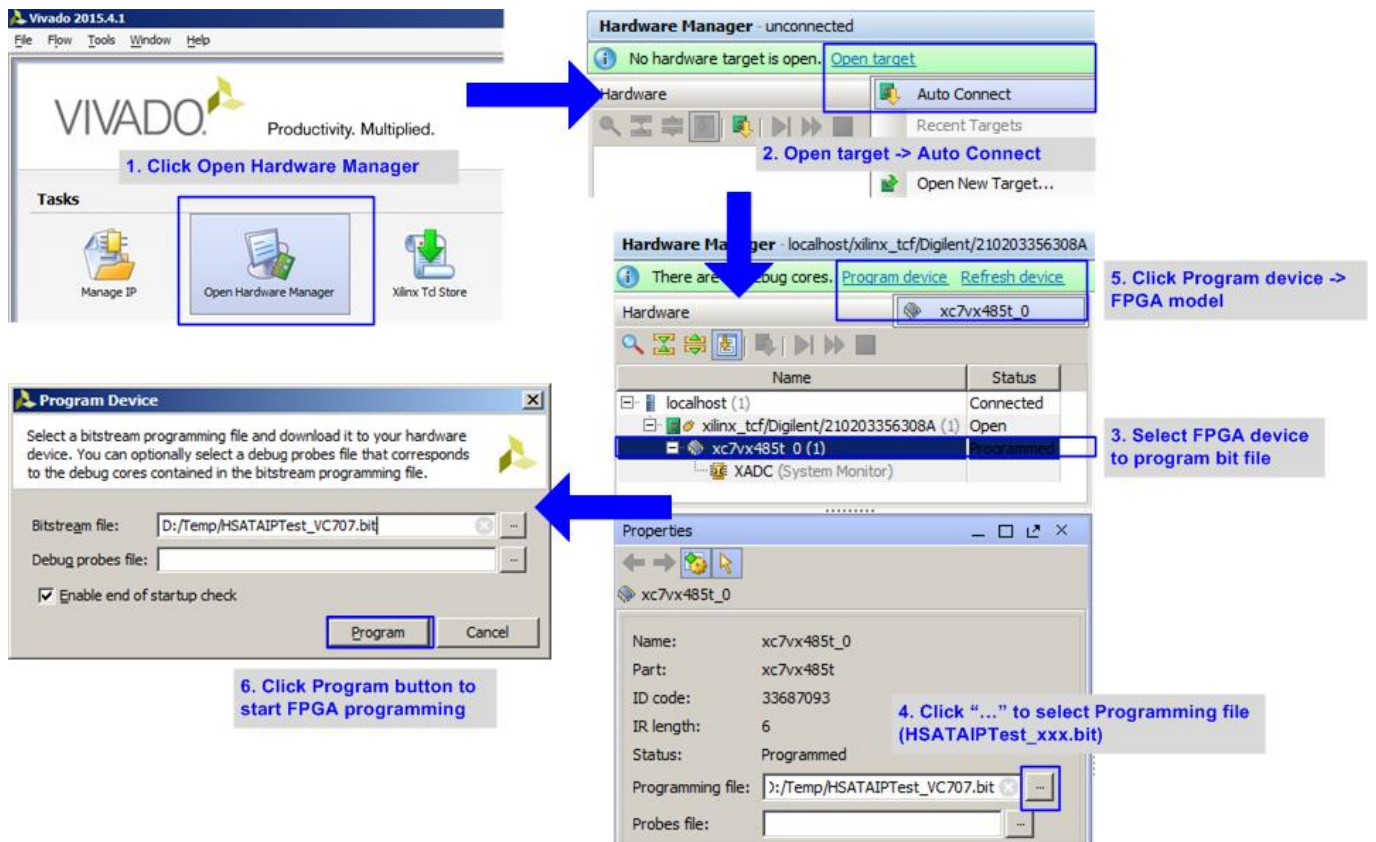

Figure 2-11 Programmed by Vivado
b) For AC701/KC705/VC707/VC709/KCU105/VCU118 board, use Vivado tool to download configuration file which includes CPU firmware, as shown in Figure 2-11.